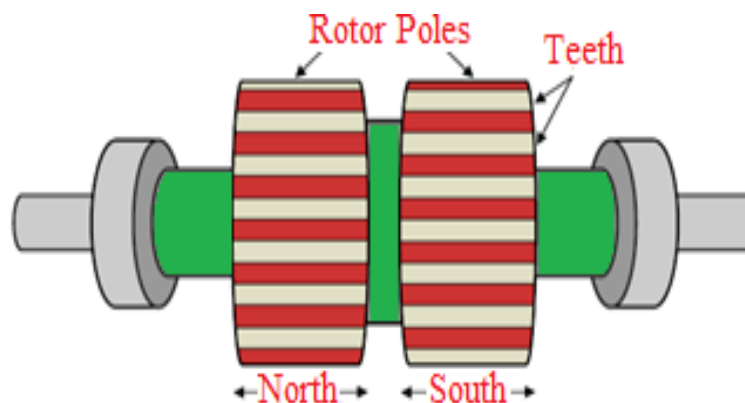

Fig.3.6: Rotor poles of an HY stepper
- If we compare the HY stepper to the PM stepper, the HY stepper is longer. The reason for this is that the HY stepper rotor has (at least) two rotating mechanisms connected to one another. These are called rotor poles and are shown in Figure 3.6.